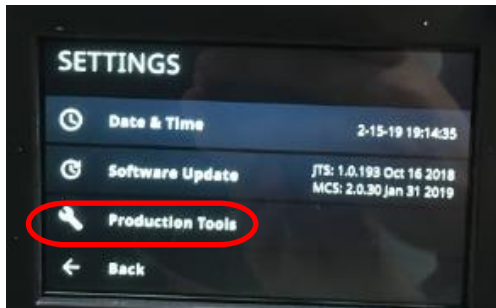

Figure E10: Settings Screen with Production Tools Circled.
15. Select PRODUCTION TOOLS. See Figure E10.